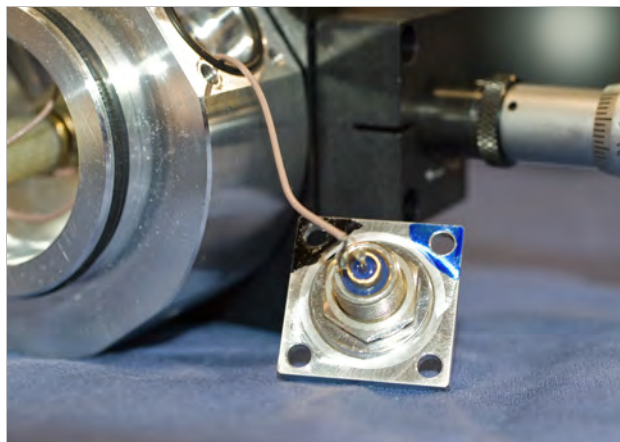

FIGURE 5-14 Cable feedthrough assembly
5. With the cable extending approximately 25 mm (1 in) from the probe arm base, solder the cable ends to the BNC or triaxial connector (FIGURE 5-14). The recommended solder is tin-silver (Sn 96% - Ag 4%) with no-clean flux.